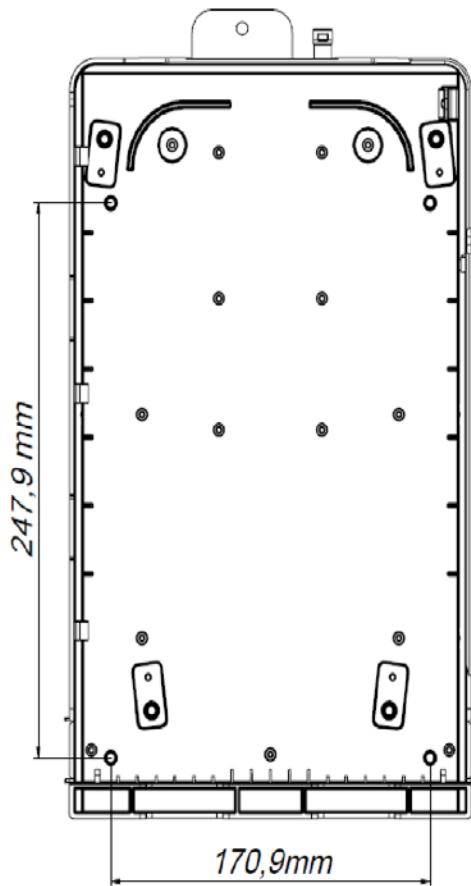

Figure 6
- 1.1.5 Secure the base to the wall. The distance between holes is shown in Figure 6.